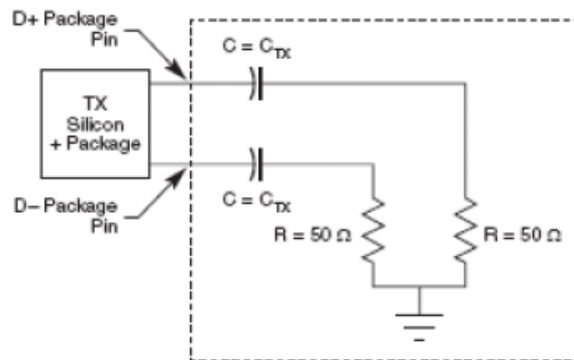

Figure 44. Compliance Test/Measurement Load
- Specified at the measurement point into a timing and voltage compliance test load, as shown in Figure 44, and measured over any 250 consecutive TX UIs.
- Specified at the measurement point and measured over any 250 consecutive UIs. The test load in Figure 44 should be used as the RX device when taking measurements. If the clocks to the RX and TX are not derived from the same reference clock, the TX UI recovered from 3500 consecutive UI must be used as a reference for the eye diagram.
2. Specified at the measurement point into a timing and voltage compliance test load, as shown in Figure 44, and measured over any 250 consecutive TX UIs.
2. Specified at the measurement point and measured over any 250 consecutive UIs. The test load in Figure 44 should be used as the RX device when taking measurements. If the clocks to the RX and TX are not derived from the same reference clock, the TX UI recovered from 3500 consecutive UI must be used as a reference for the eye diagram.